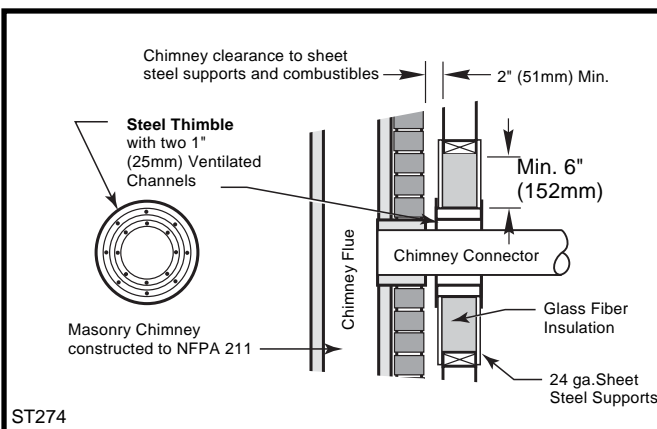

Fig. 9 Wall Pass-through using single wall chimney connector with a ventilated steel thimble.
- Placing a chimney connector pipe inside a steel double-wall ventilated thimble, which is then separated from combustibles by 6" (150 mm) of fiberglass insulating material. (Fig. 9)